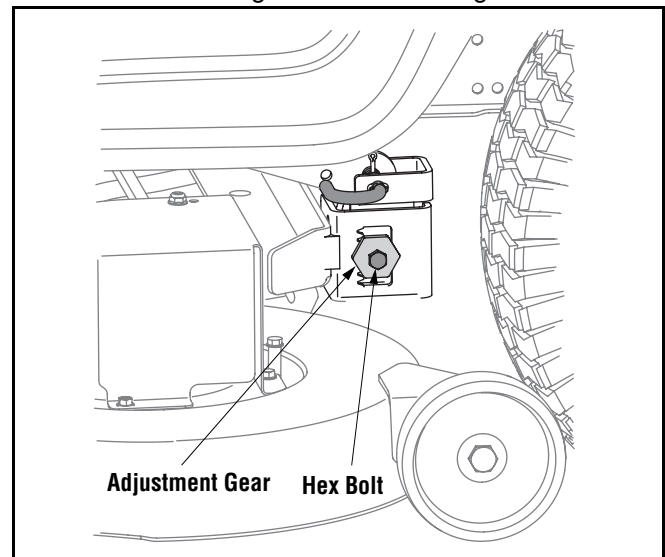

Figure 14
- Loosen, but do NOT remove, the hex cap screw on the left deck hanger bracket. See Figure 14.